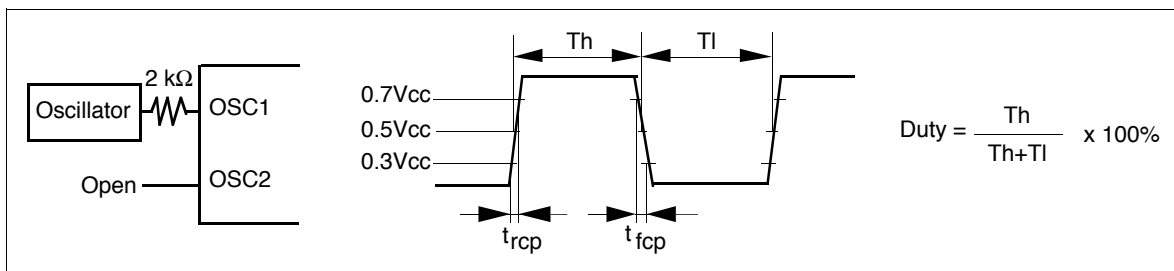

Figure 46 External Clock Supply
10. Applies to the external clock input (figure 46).